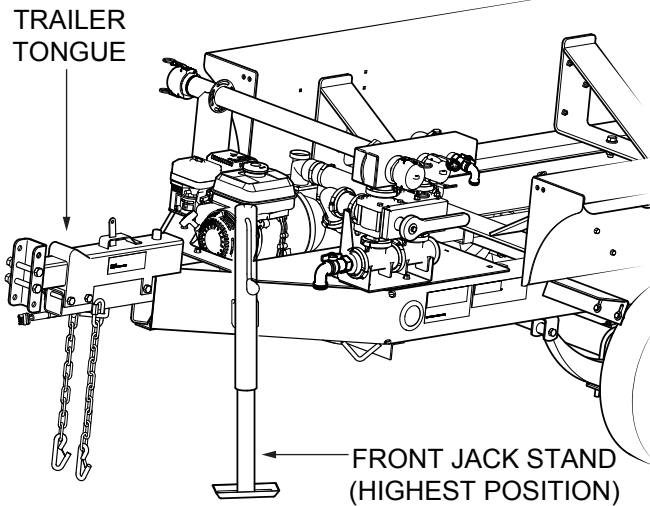

Figure 21. Raising Trailer Tongue
2. Place unit on a level surface and raise trailer tongue by placing front jack stand to the highest position (Figure 21).